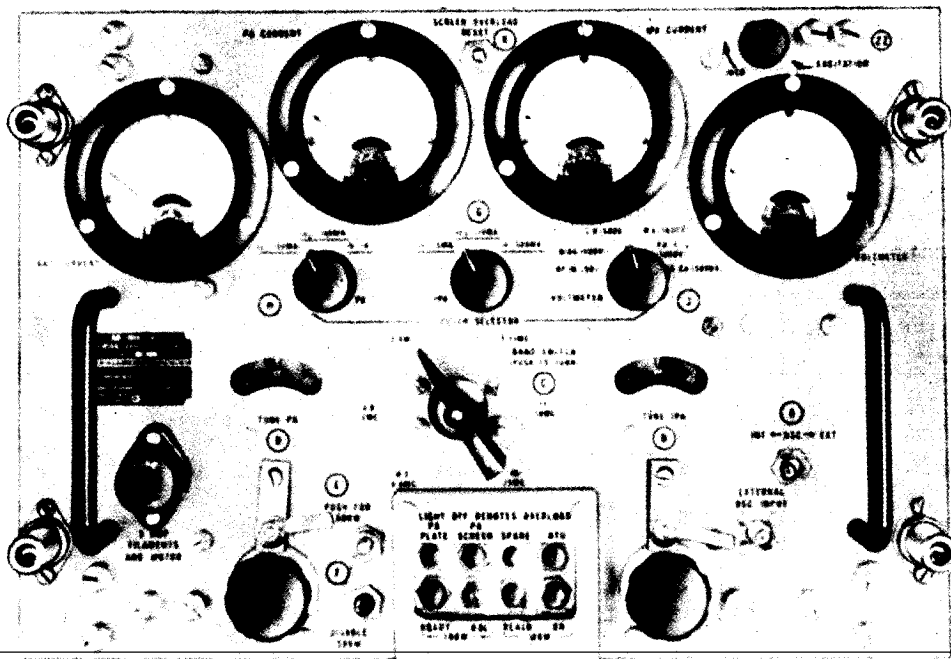

Figure 9-3.—Radio frequency amplifier AM-1008/SRT.
The radio frequency amplifier (fig. 9-3) amplifies the r-f signal received from the radio
- b. The blower motor in the RFA fig. 9-3 starts to operate.